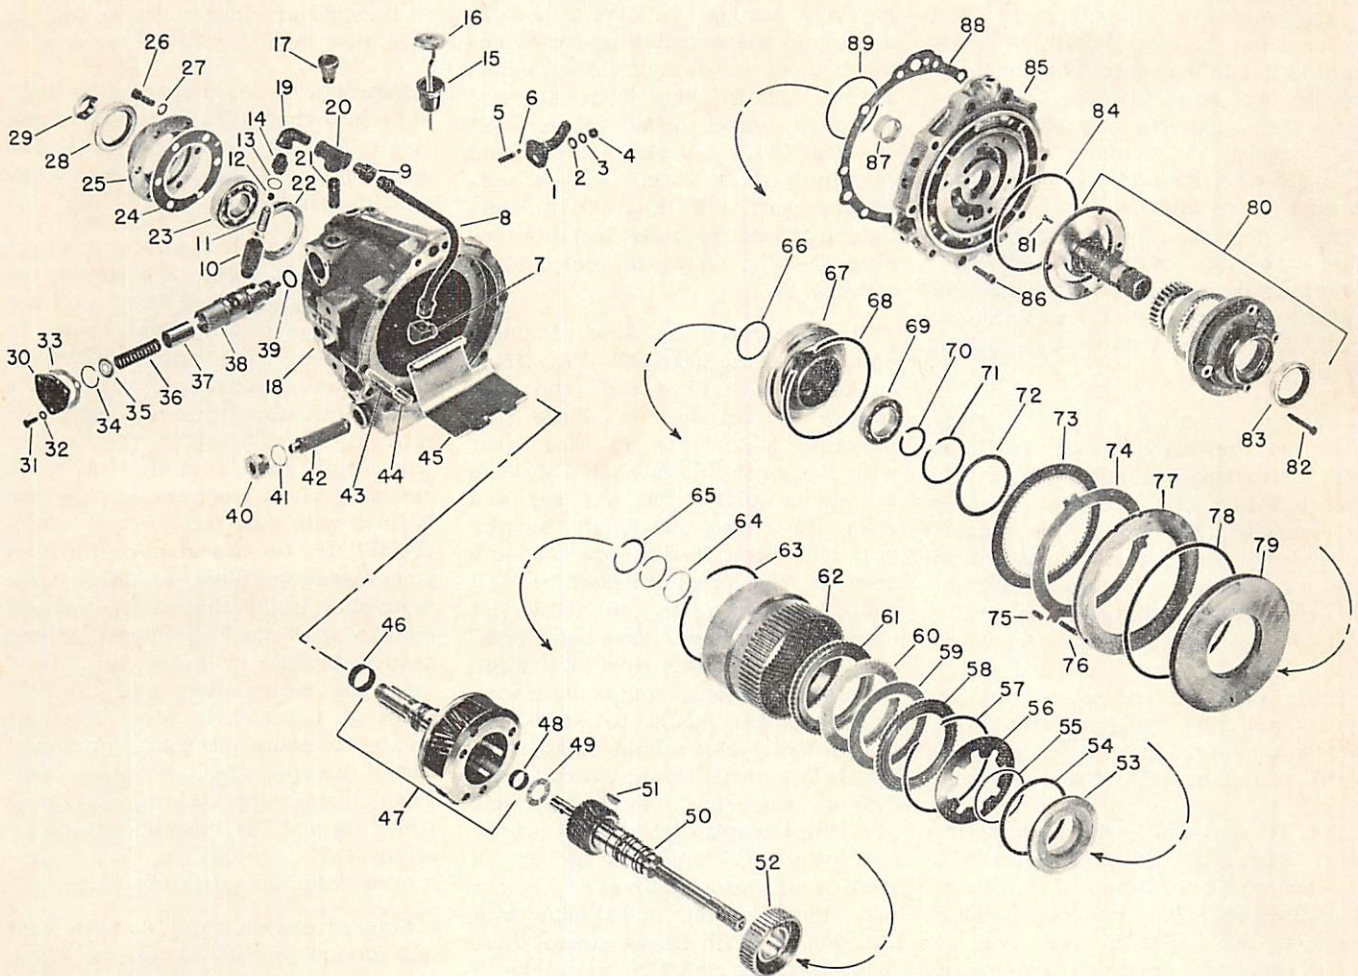

Fig. O116 — Exploded view of the Reverse-O-Torc drive unit showing component parts and their relative positions.
Fig. O115 — Reverse-O-Torc Drive unit (19) is driven by torque converter (36) mounted on engine flywheel and is coupled to transmission input shaft by sprockets (1 and 6) and chain (2). Refer to Fig. O116 for exploded view of the Reverse-O-Torc unit. Converter is serviced as a complete assembly only.
183. OVERHAUL REVERSE - O - TORC DRIVE UNIT. After removing the drive unit as outlined in paragraph 181, remove unit oil filter and external oil lines. Then, refer to Fig. O116 and proceed as follows:
move the plug (5—Fig. O115) from sprocket (6). Then, hold sprocket with suitable tool and remove nut (29—Fig. O116) from rear end of output shaft. With a suitable soft drift, bump rear end of output shaft until free of bearing (23) and remove the shaft and planetary assembly from housing. Unbolt retainer (25) from rear end of housing. Drive bearing (23) and seal (28) out of retainer. Sleeve (22) can be pressed from rear of housing (18) and is available for service; however, renewal of sleeve should not be necessary. Baffle (45) can be snapped out of housing for cleaning purposes; note position of baffle before removing same.
184. To reassemble the Reverse-O-Torc Drive unit, refer to Fig. O116 and proceed as follows: If removed, snap the baffle (45) into place inside housing; two holes in rear end of baffle should fit over two bosses cast into the housing. Reinstall filter screen (42).
(47) through rear bore of housing and bump the assembly rearward until shoulder on shaft is firmly seated against ball bearing. Lubricate seal and seal contact surface of sprocket (6—Fig. O115) and place on rear end of output shaft. Install a new self-locking nut (29—Fig. O116) and tighten the nut securely. Install a new plug (5—Fig. O115) in rear end of sprocket (6).
To reassemble the forward clutch unit, place ring gear (62—Fig. O116) on bench with front end (end with splines on outside) up. Place rear pressure plate (61) in ring gear with flat machined side up. Lubricate the clutch plates (59 and 60) and place the plates alternately in ring gear with plate having internal teeth next to the pressure plate. Install front pressure plate (58) with flat machined side down and secure pressure plate with snap ring (57). Note: Be sure proper snap ring is used; snap ring thickness should be 0.090-0.093 and free diameter should be approximately $5\frac{1}{8}$ inches. Place clutch spring (56) on snap ring with concave side of spring towards snap ring. Lubricate and install "O" rings (54 and 66) in grooves of piston (53) and cylinder (67). Install piston in cylinder with flat side in. With heavy grease, stick spring bearing ring (55) in groove in face of piston. Install the assembled cylinder in ring gear being careful that ring (55) does not drop out. Place the unit in an arbor press and with a proper size arbor, compress cylinder against clutch spring and install snap ring (68). Release pressure and turn the assembly over with ring gear (rear) end up. Place a proper size arbor against clutch pressure plate (61) and compress the clutch components against snap ring (68). Measure the clearance between pressure plate and rear side of snap ring groove inside the ring gear. Then, install the proper thickness of snap ring (63) to provide 0.056-0.086 clearance between pressure plate and snap ring. Snap rings are available in three thicknesses of 0.050-0.054, 0.074-0.078 and 0.096-0.100 which are color coded respectively, green, orange and white.
Install new oil seal (83) in pump cover with lip of seal to rear (inward) and reassemble pump using Fig. O116 as a guide. Tighten the flat head screws (81) to a torque of 17-22 Ft.-Lbs. Pump gears should turn freely at this time. Lubricate the pump and install pump on front adapter plate with a new gasket (84). Tighten the retaining cap screws to a torque of 17-22 Ft.-Lbs. Note: Be sure that the long cap screws are installed at the thick pump bosses.